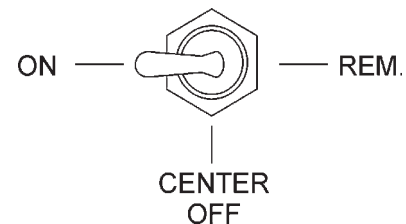

Figure 23. Pumping Control Switch (On)
6. Place the **Pumping Control Switch** to the **ON** position (Figure 23) for normal pumping operation. Place the switch in the **REM.** position for remote control operation of the LS-40D/LS-40TD/LS-50TD pump.